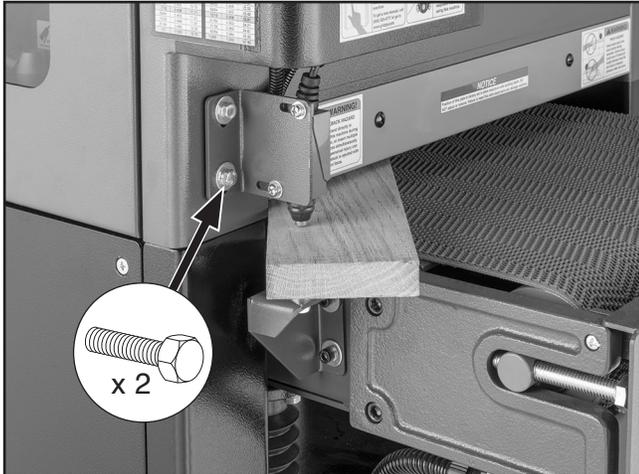

Figure 76. Workpiece thickness sensor calibration hex bolts.
- Loosen (2) hex bolts shown in **Figure 76**.
- Adjust workpiece thickness sensor (see **Figure 76**) until you hear it click against workpiece, then tighten hex bolts to secure position.